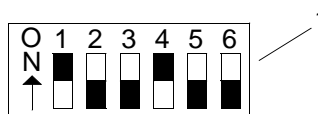

Figure 5. DIP Switch Positions
3. Verify Dual Inline Package (DIP) switches (figure 5, item 1) are in following positions: